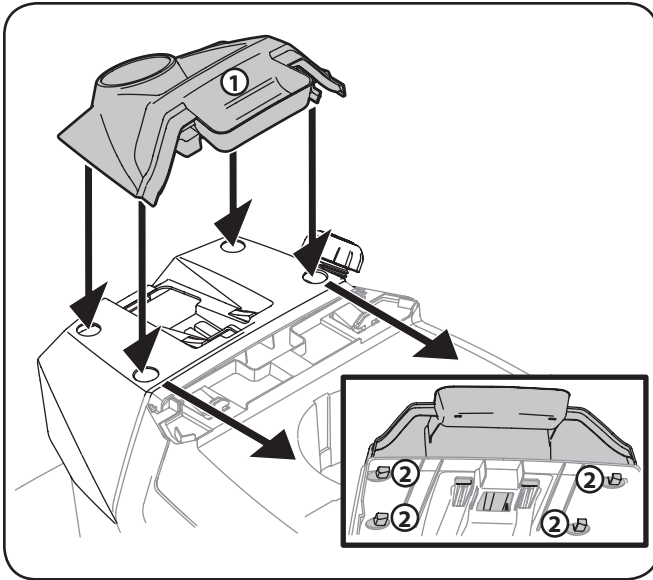

Figure 3-7
To install the dash cap (1), line up the tabs (2) on the dash cap (1) with the holes in the upper dash as shown in Figure 3-7. Slide the tabs (2) into the holes in the upper dash and push forward on the dash cap (1) to lock into place.